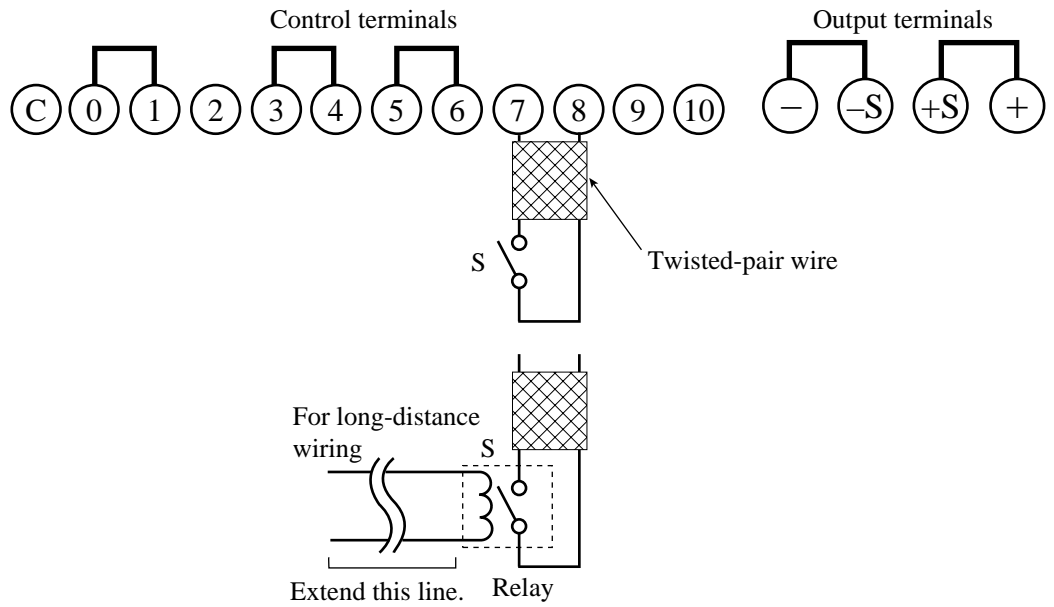

Fig. 4-18 Connection for shutting off the POWER switch
2. Connect a contact S (switch) across the control terminal 7 and 8 as shown in Fig. 4-18.
- **Isolate the external contact (S) and the cable connected to it with at least the isolation voltage of the unit. Float a signal from the external contact. Terminals 7 and 8 of the control terminal board have the same potential as the + terminal of the unit's rectifier smoothing capacitor, and the voltage applied to them will exceed the output voltage.**